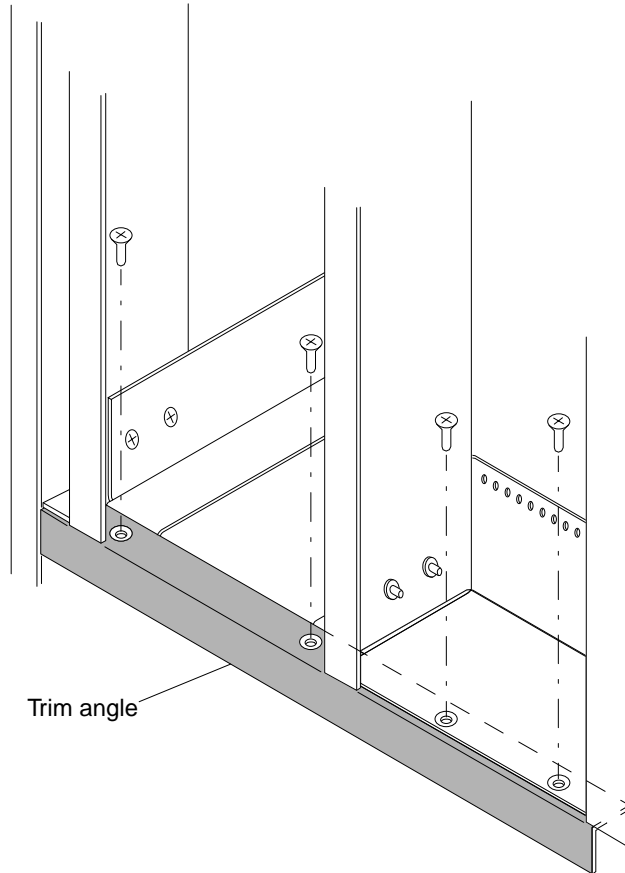

FIGURE 9 Trim Angle Installation
6. Install the trim angle in the correct position on the joggled flange of the horizontal rails below the 4U panel with M4x10 flathead screws. Leave the screws loose (FIGURE 9).